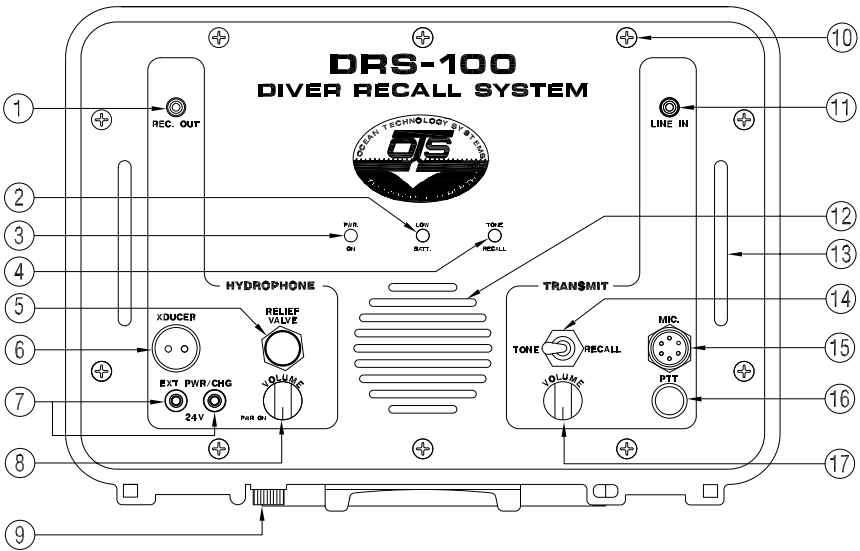

Figure 1. Features of the DRS-100B
Refer to Figure 1. Terms in all capital letters correspond to the labels on the DRS-100 panel.
3. Fully close the relief valve (Fig. 1, #5) on the panel by rotating it clockwise.
4. If you will use an external power source, connect its banana plugs to the “EXT PWR/CHG” jack (Fig. 1, #7) on the DRS-100 panel, being careful to observe polarity (match the red and black). Activate the external power source, if necessary, but leave the DRS-100 power off. If you will use the internal batteries, proceed to Section 3 (Batteries and Charging, p. 7) before continuing.
5. Remove the protective cover from the transducer receptacle (Fig. 1, #6).
**2.2.1 POWER AND VOLUME CONTROL:** To activate the unit’s power, rotate the speaker volume control (Fig. 1, #8) clockwise. The green “PWR ON” LED (Fig. 1, #3) should illuminate. To adjust the hydrophone listening volume, turn the speaker volume control (clockwise rotation increases the volume).
**2.2.2.1 Tone/Recall Mode:** For tone transmission, move the “TONE/RECALL” switch (Fig. 1, #14) either right for *intermittent tone* or left for *continuous tone*. The tone/recall LED (Fig. 1, #4) illuminates *green* when the DRS-100 is in intermittent tone mode and *red* when in continuous tone mode.
**2.2.2.2 Voice Communication:** For voice communication to divers or swimmers, set the transmitter volume (Fig. 1, #17) to about half volume. If you will use a hand-held microphone (e.g., the HSM-10) with a push-to-talk (PTT) switch, insert the microphone connector into the jack (Fig. 1, #15), depress the PTT button, and talk into the microphone. Otherwise, press and hold the PTT switch (Fig. 1, #16) and talk into the front-panel speaker (Fig. 1, #12). To increase the transmission volume, rotate the transmit volume control (Fig. 1, #17) clockwise. Release the PTT button when you have finished transmitting.
**2.2.2.3 External Audio:** To transmit audio from an external source, connect an RCA plug leading from the source to the DRS-100’s “line-in” jack (Fig. 1, #11).
**2.2.3 RECORDING:** To record audio signal received from the hydrophone or that you transmit into the water, insert a male RCA plug into the record-out jack (Fig. 1, #1). Connect the other end to your recorder’s microphone input.
When the low-battery LED (Fig. 1, #2) begins to flash red, the battery voltage has decreased to 20 volts. Although the DRS-100 can operate with as little as 12 volts, we recommend that you recharge the batteries (Section 3.1) as soon as possible after the LED starts to illuminate. If the batteries no longer hold a charge, replace them (Section 3.2).
2. Turn the relief valve (Fig. 1, #5) fully counterclockwise to open it.
3. Locate the 24-volt “EXT PWR/CHG” jack (Fig. 1, #7), and insert the plugs (+ red and – black) from the RC-30A battery charger.
- **Batteries can excrete hydrogen gasses during the charging cycle. To minimize gas build-up, open the pressure relief valve (Fig. 1, #5 ) on the panel while recharging the batteries. Do not release the pressure relief valve and turn on the DRS-100 until a minimum of 15 minutes have elapsed after the charging cycle has been completed and the charger is disconnected from the front panel. *Failure to follow this procedure may result in damage to the unit or serious injuries due to an explosion!!!***
1. Remove the ten front-panel screws (Fig. 1, #10).
2. Gently remove the control panel by pulling on the handles (Fig. 1, #13).